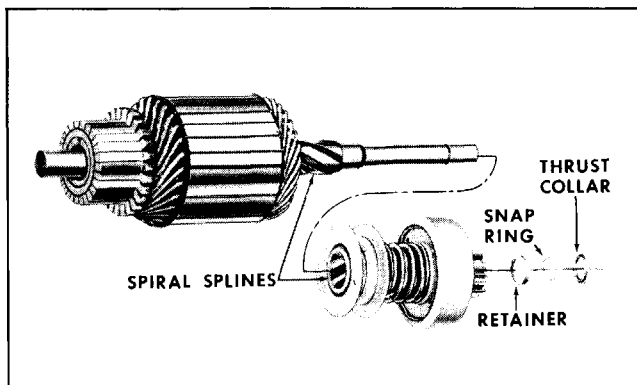

Fig. 12-29 Armature and Overrunning Clutch Assembly—Exploded
- a. Slide thrust collar (Fig. 12-29) off end of armature shaft.
b. Slide clutch assembly onto armature shaft with pinion outward (Fig. 12-29).
c. Slide retainer onto shaft with cupped surface facing end of shaft (Fig. 12-29).
e. Assemble thrust collar on shaft with shoulder next to snap ring (Fig. 12-29).